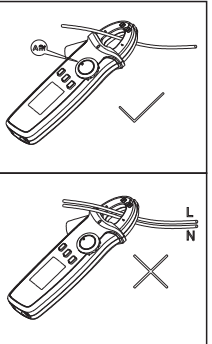
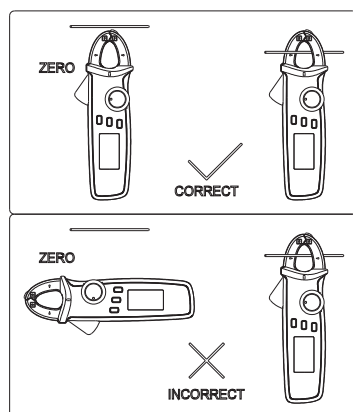

Figure 5
Figure 6
3. AC/DC current measurement (Figure 5, Figure 6)